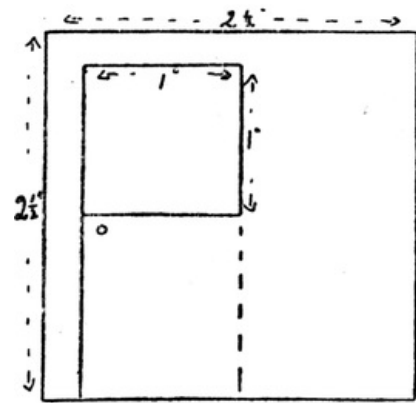

FIG. 247
**A Taxi-cab.** Begin with a piece of wood, 6 inches by 3 inches. Cut out two pieces of cardboard (medium thickness), 2½ inches by 2½ inches. Draw doors on them and cut out as in Fig. 247. These pieces are painted the colour desired for the taxicab.